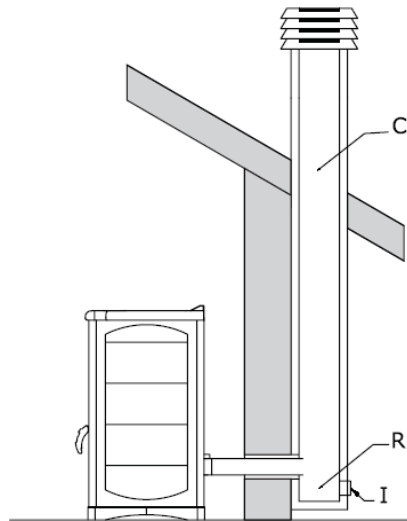

Figure 2.5: Extraction by means of a traditional flue.
Pellet combustion fumes may be extracted also using a pre-existing traditional flue (figure 2.5), provided that it is made to standard (refer to standard UNI 10683). Below is a short list of some of the main features given in the standard that characterise a good chimney (C):